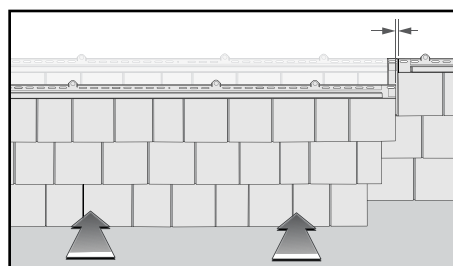

Figure 4
4. Install the next panel by positioning it below the starter strip and next to the first panel. Push in (Figure 4). Space the second panel according to the panel temperature to position panel into place. Gently tap the outside of the HammerTapper™ ribs to properly position the panel left or right.